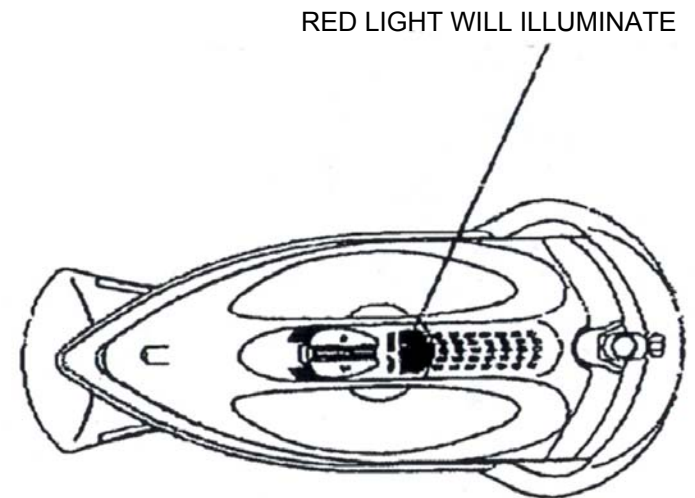

Fig. 5
- Thermostat light (7) will now come on. (Fig. 5)
- When the thermostat light (7) has gone out and has come on again you can start ironing.
- The thermostat light (7) will come on from time to time during corded ironing.
- If you set the temperature control (1) to a lower setting after ironing at a high temperature, do not recommence ironing before the thermostat light (7) has come on and then has gone out again.